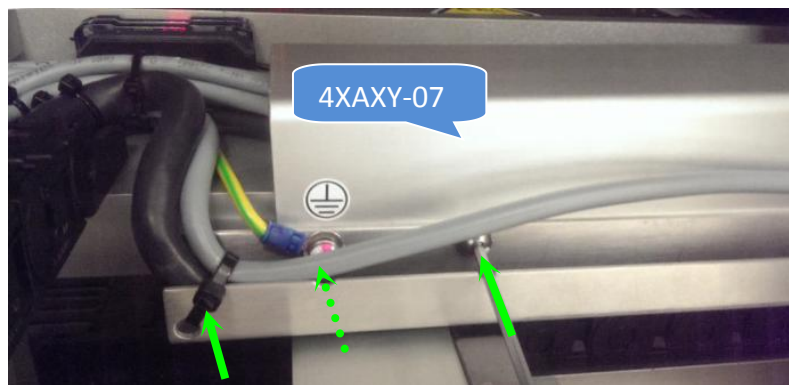

Figure 43 X Axis Guard Plate assembly
45. Assemble 4XAXY-075 as below Figure 43. Secure cables with cable tie